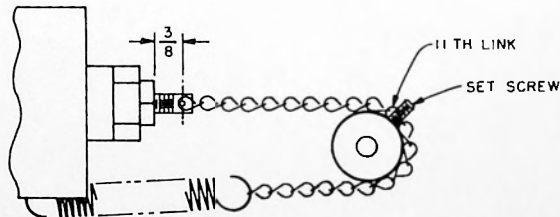

FIGURE 4-3
1. Check to see that the set screw protruding from the chain pulley is inserted through the eleventh (counting from the solenoid plunger) link of the linkage chain as shown in Figure 4-3.
2. Loosen the solenoid plunger locknut and rotate the solenoid plunger and locknut until the space between the front edge of the solenoid plunger and the center of the roll pin clevis is $\frac{3}{8}$ of an inch (see Figure 4-3).